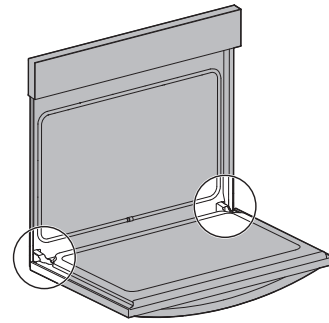

Figure 14: Door hinge location
1. Open oven door completely, horizontal with floor (Figure 14).
3. Fully open the oven door, horizontal with floor (Figure 14).